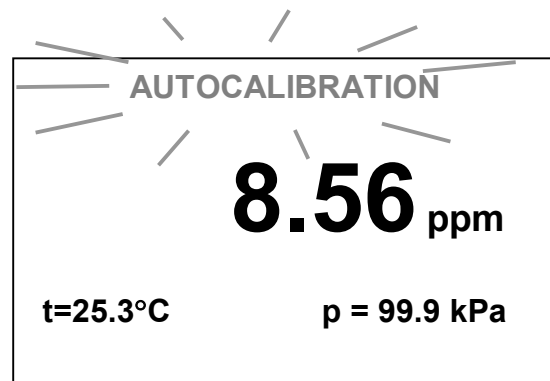

*Fig. 2.10 – Probe position in a flask on analyzer calibration*
- 3 Shake water drops off the probe membrane and place the probe into a KH-100-19/26 conical flask or a similar vessel filled with water of 3-5 mm layer as shown in Fig 2.10. The flask is to be inclined at 30-45° angle to the horizontal so that residual water might flow down the membrane.